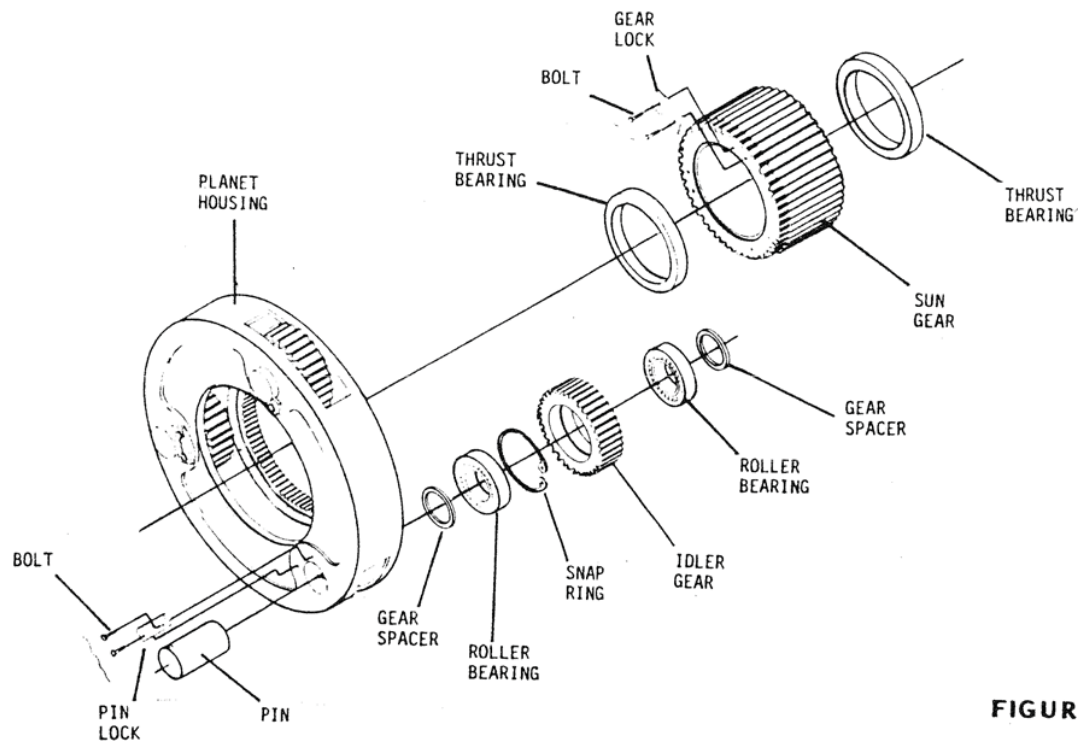

FIGURE 8
B. Pre-Assembly Preparation - Figure 8.